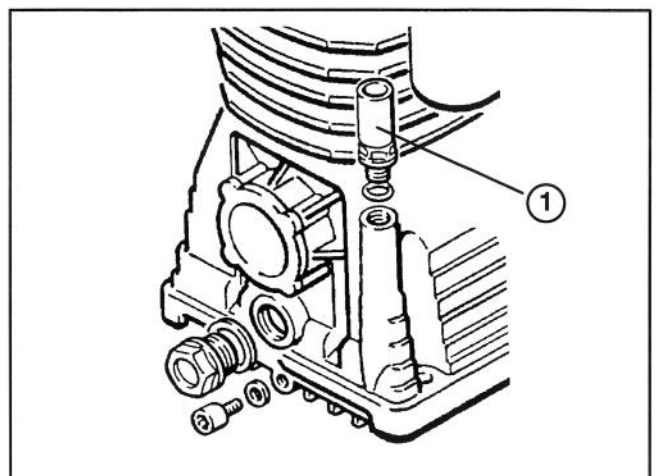

Figure 2
2. Remove the oil fill plug (Fig. 2).
3. Add SAE 40W compressor oil (approx. 44 oz.) until oil level reaches the correct level on the sight glass (Fig. 2). The oil level should reach 1/8" above the red dot on the sight glass. **DO NOT OVERFILL OR UNDER FILL; TOO MUCH OR TOO LITTLE OIL WILL HARM THE PUMP.**